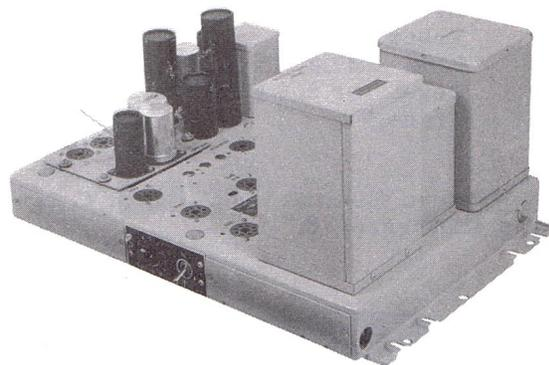

Figure 20 - Western Electric 143-Type Amplifier
3.38 The Western Electric 143 series amplifiers are coded 143A, 143B, and 143C. A 143-type amplifier is shown in Figure 20. All of these amplifiers use the same basic 143A chassis with the following characteristics: